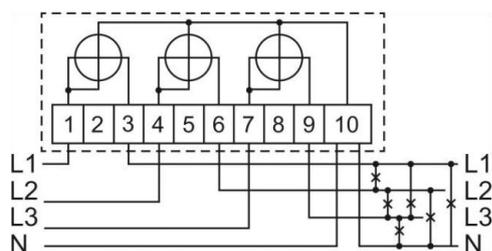

Figure 2. Connection diagram of the meter
6.4. The circuit for connecting the meter to consumer's network shown in Figure 2.
7.5. Before installing the meter, it is necessary to do an external review of the meter, to ensure that there is no mechanical damage, and the availability of seals. The connection of the meter must be carried out in accordance with the diagram shown in Figure 2. All screws must be tightened with a flat blade screwdriver (thickness of the blade is 1 mm) to the point with the force of 3,5 N·m.